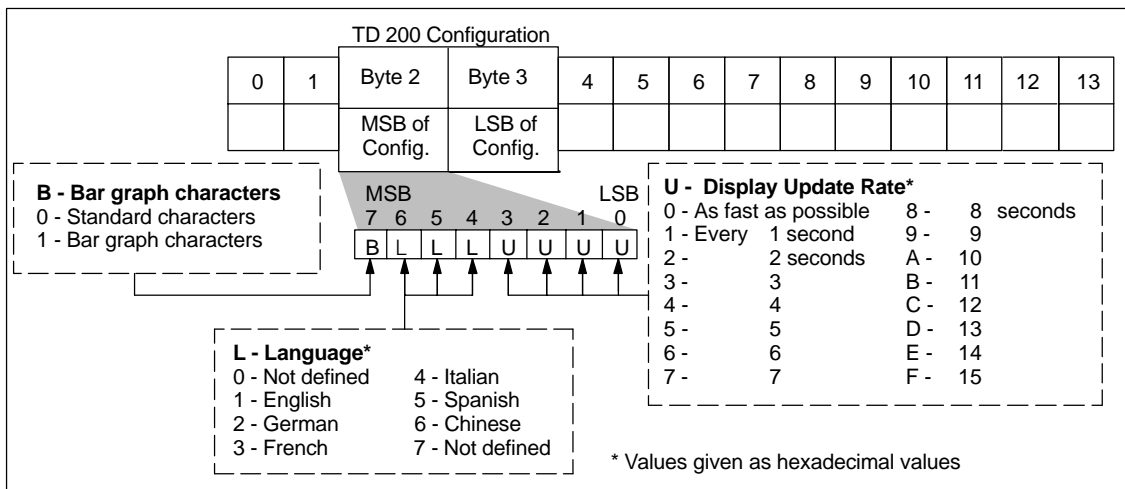

Figure D-3 Information Contained in Byte 2 of the TD 200 Parameter Block
Byte 2 of the TD 200 parameter block allows you to configure the desired language and the update time. Figure D-3 shows the information contained in Byte 2 of the parameter block.
- **(L) Language** The language selection determines the display language of the TD 200 menus.
- **(U) Update Rate** The update rate selection determines how often the TD 200 polls the S7-200 CPU for messages to display. The actual update time may be slower depending on the size of the message and the processing required.
- **(B) Bar Graph Characters** The bar graph characters selection enables the use of characters designed for displaying bar charts on the TD 200. See Appendix A. This selection is valid only when the original TD 200 character set being used. (See "B" in Figure D-3.)